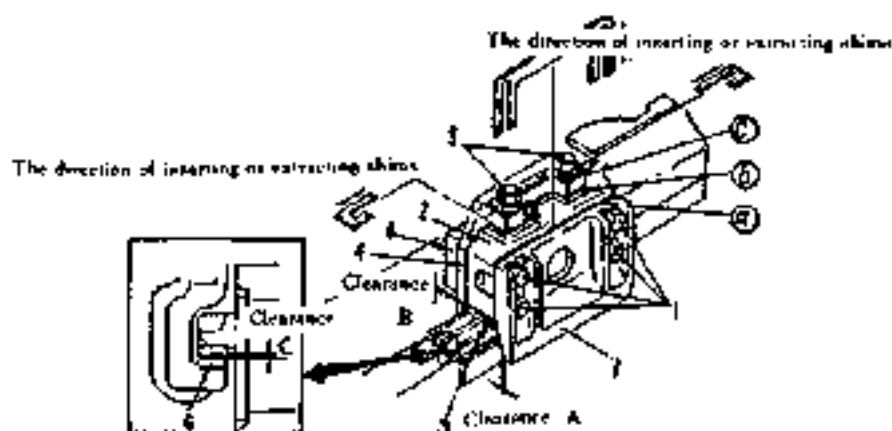

Fig. 5-27
5.5.2 Adjustment of clearance of idler. As shown in Fig. 5-27.